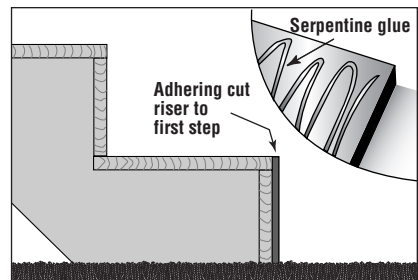

Fig. 35
2. Glue in place by applying a 3" (7.6 cm) serpentine bead of construction adhesive to the back of the flooring (Fig. 35). Refer to construction adhesive label for all recommendations, warnings and safety precautions.